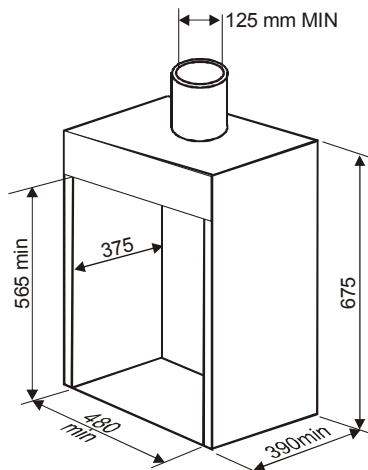

Figure 39 – Minimum Dimensions of Metal Flue Box
3. Any metal flue box must comply with BS 715 and have minimum dimensions as shown in **Figure 39**. There must be a minimum of 50mm clearance from any combustible material; alternatively the box may be insulated with 25mm Rockwool or equivalent. The top of the box must be insulated with 25mm Rockwool or equivalent.